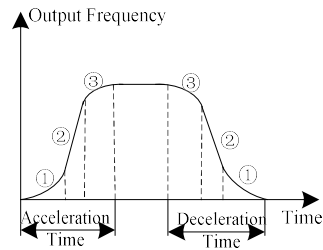

Fig.6-4 S-curve acceleration/deceleration
Starting stage of S-curve is shown in Fig.6-4 as “①”, where the changing rate of output frequency increases from 0;
Rising stage of S-curve is shown in Fig.6-4 as “②”, where the changing rate of output frequency is constant;
Ending stage of S-curve is shown in Fig.6-4 as “③”, where the changing rate of output frequency decreases to zero.